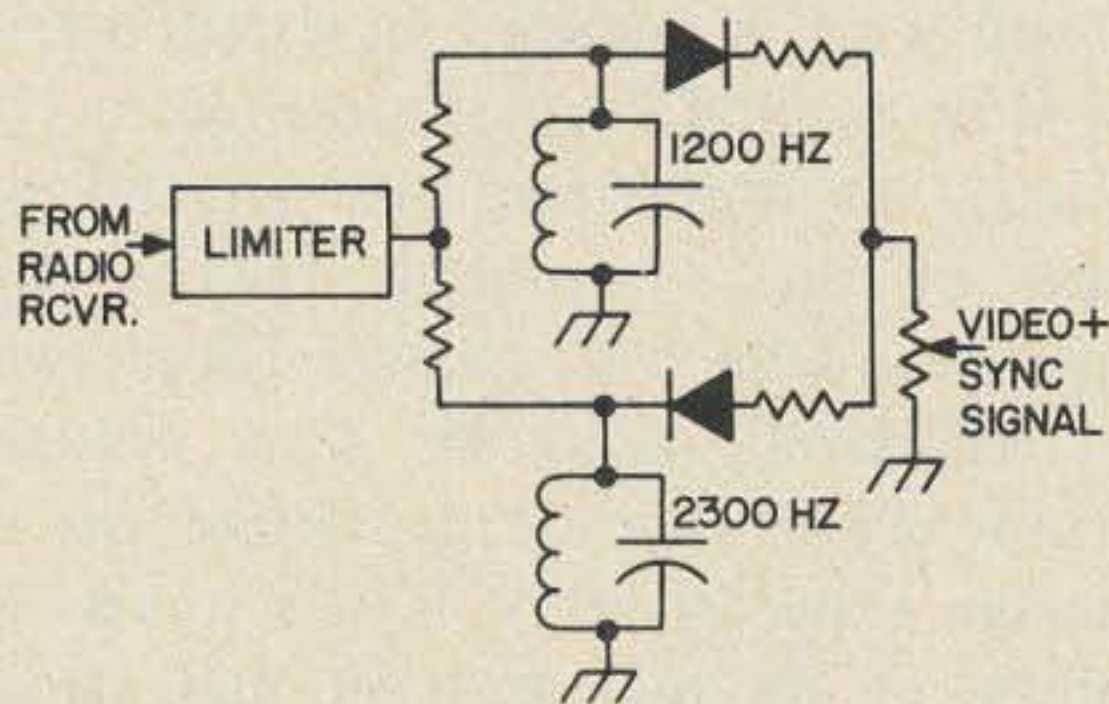

Fig. 2-46. Double-sided discriminator circuit.
A better solution to video recovery is the use of two tuned circuits to create a double sided discriminator linear response curve. This response can extend to the 1200 Hz sync frequency or just include the video spectrum. The entire spectrum is covered by the two sided response curve shown in Fig. 2-45. The block diagram is shown in Fig. 2-46. This characteristic can be created by the use of two tuned circuits tuned to 1200 Hz and 2300 Hz respectively. The method of sync extraction used in such circuits can be either (1) another narrow band tuned circuit or active band pass filter tuned to 1200 Hz, or (2) use of a phase lock loop or integrator to filter the sync pulses recovered from the discriminator response.